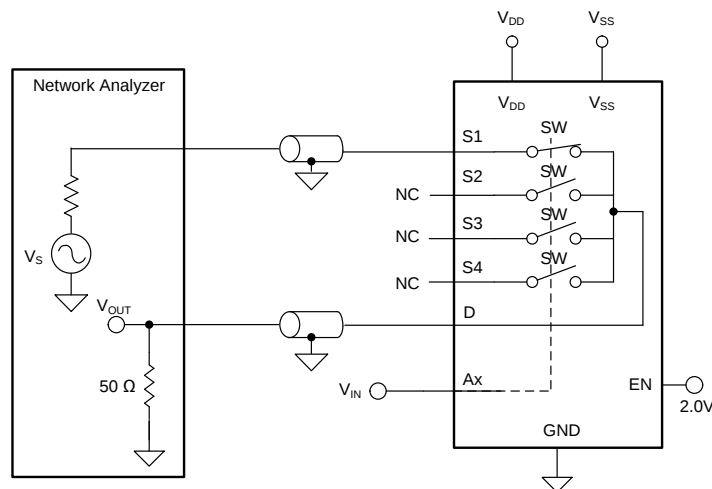

图 26. Bandwidth Measurement Setup
Bandwidth is defined as the range of frequencies that are attenuated by $< 3 \text{ dB}$ when the input is applied to the source pin (Sx) of an on-channel, and the output is measured at the drain pin (D) of the TMUX6104. 图 26 shows the setup used to measure bandwidth of the mux. Use 公式 4 to compute the attenuation.